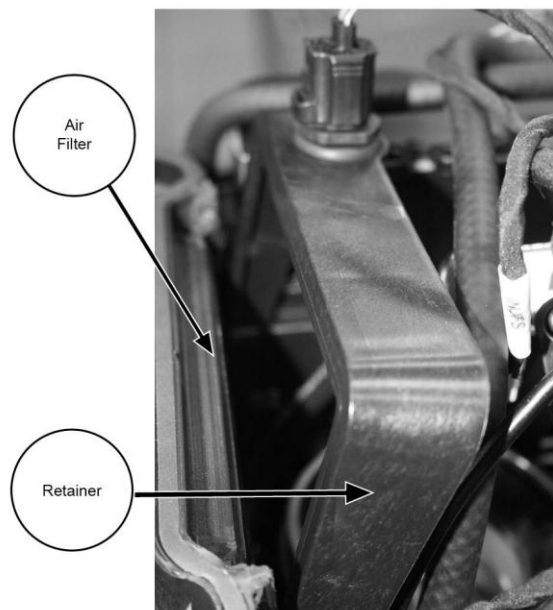

Figure 52: Air filter Access.
1. View the expansion tank. See Figure 52. The fluid level should be at the marked level when cold.